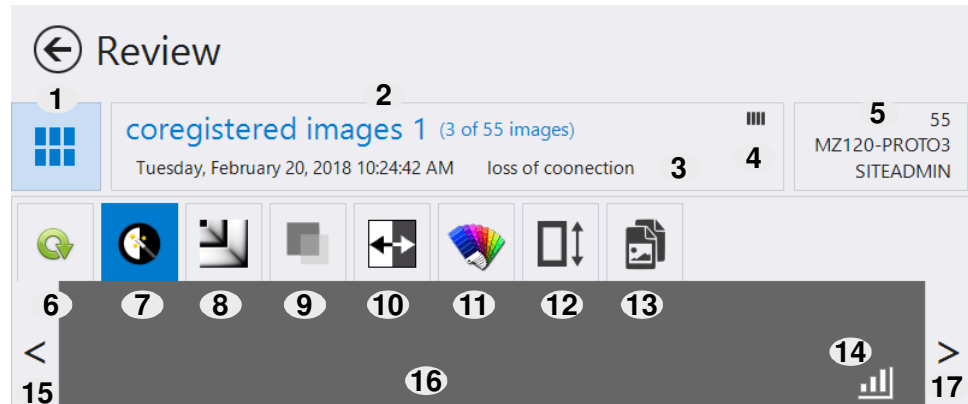

Figure 8-1: Enhancement Tool Menu Layout (Identical layout for **Scan** screen and **Review** screen). The buttons are described in Table 8-1.
- All of the other images in the group are available for individual viewing in View mode, without having to switch back to Search mode. To see each image in sequence, tap the Previous button and Next button (see Figure 8-1), located on the left and right sides of the Content pane.
- The Enhancement Tools menu appears at the top of the Content pane (see Figure 8-1). Enhancements are described in Section 8.1.2, Enhancements Toolbar.
The Enhancement Tools menu is shown in Figure 8-1. The individual enhancements are described in Table 8-1.